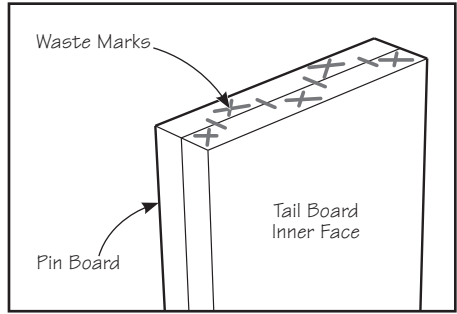

Figure 7: Mark waste areas.
4. Identify your pin board and your tail board. Mark out the waste areas on each board (see **Figure 7**).